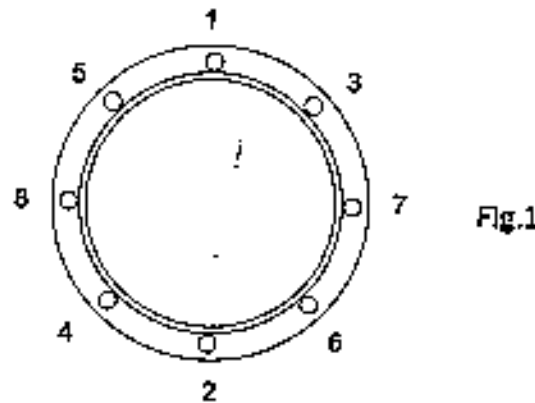

Fig.1
- Starting on top taper ring, torque down bolts top and bottom in a "star" sequence (Fig.1) in two stages. Torque bolts in order from 1 to 8. Repeat for bottom taper ring.